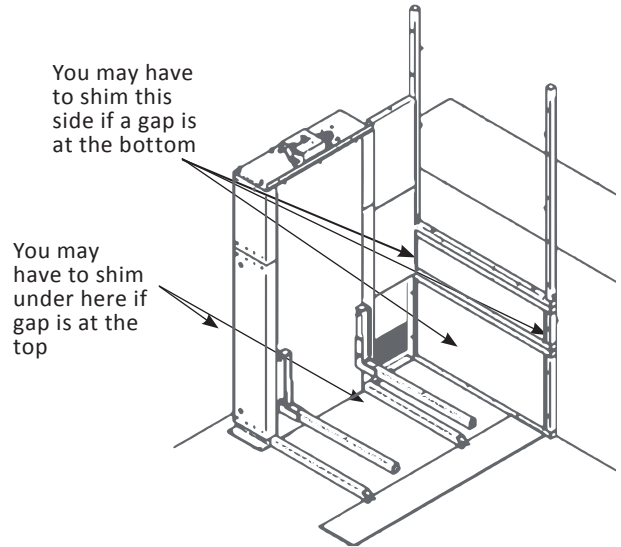

Figure 3-5
- Place the bolts through the tower side panels into the wall panels. *See Figure 3-5.*